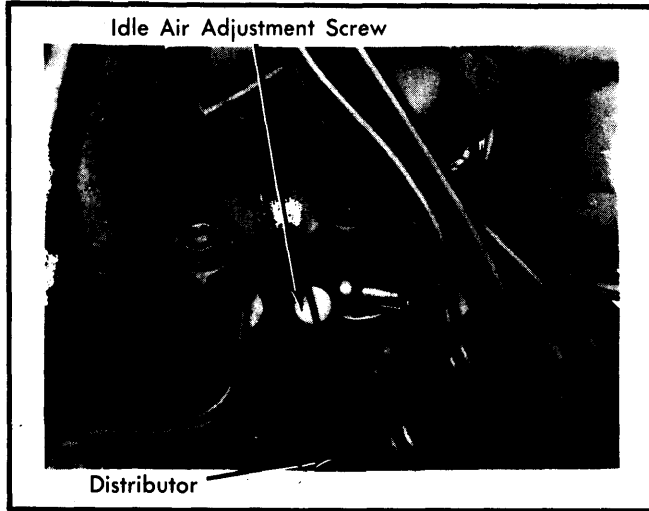

Fig. 3 Idle Air Adjustment Screw
3) Adjust idle speed using idle speed screw. See Fig. 3.